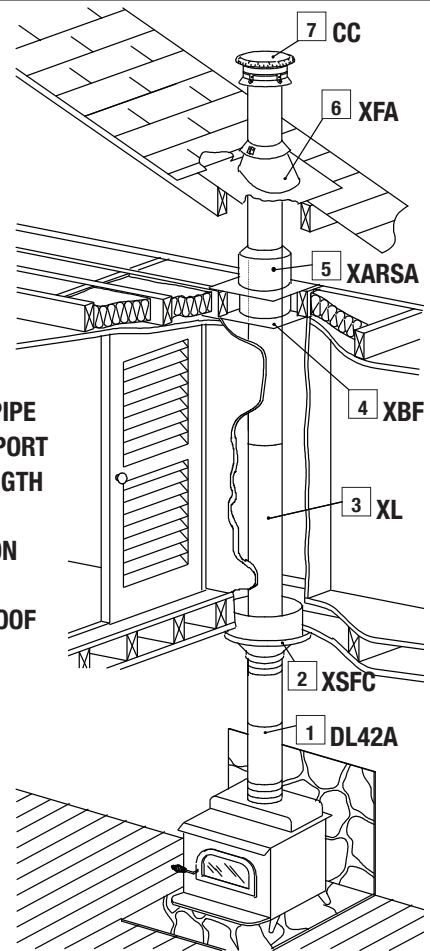

Figure 7
Step 4. Put the first chimney length in the support. Turn it clockwise to lock it in place (see Figure 7).